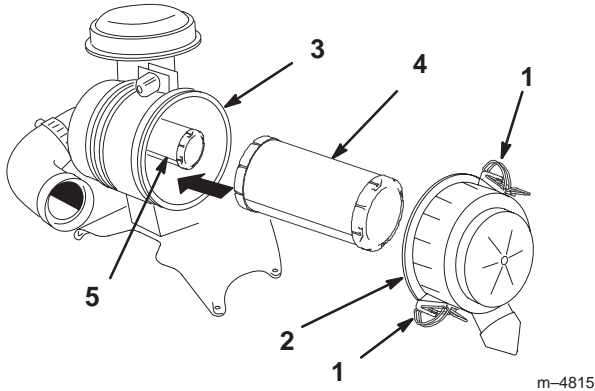

Figure 40
3. Release the latches on the air cleaner and pull the air cleaner cover off of the air cleaner body (Fig. 40).
5. Gently slide the primary filter out of the air cleaner body (Fig. 40). Avoid knocking the filter into the side of the body.
- If the safety filter is being replaced, carefully slide it into the filter body (Fig. 40).
- Carefully slide the primary filter over the safety filter (Fig. 40). Ensure that it is fully seated by pushing on the outer rim of the filter while installing it.
- Install the air cleaner cover with the side indicated as UP facing up and secure the latches (Fig. 40).